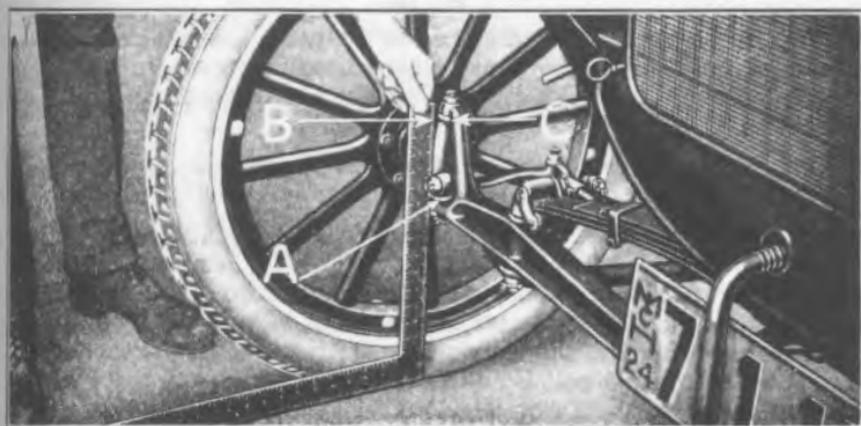

Fig. 119
- 147 The front axle should have a  $5\frac{1}{2}^{\circ}$  pitch toward rear of car. To check the pitch, place the car on a floor having a level surface. A square is then positioned with one edge on the floor and the other edge resting against lower spindle body bushing in front axle (See "A" Fig. 119).